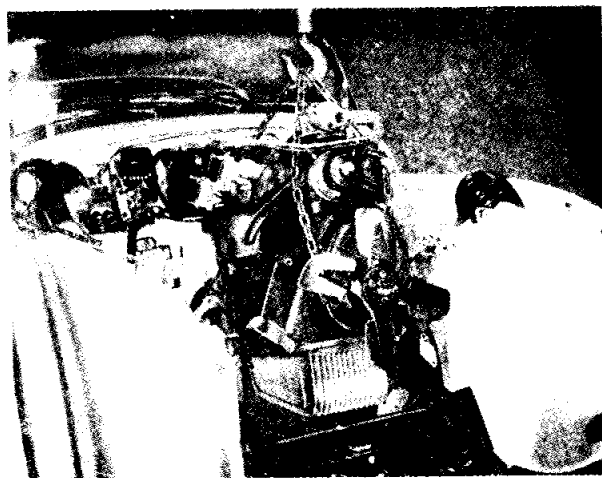

Fig. 31 The Engine and Gearbox being removed from the Chassis. Note the "nose up" attitude.
- (s) Fit slings to engine and lift out in a "nose up" position, as shown in Fig. 31.